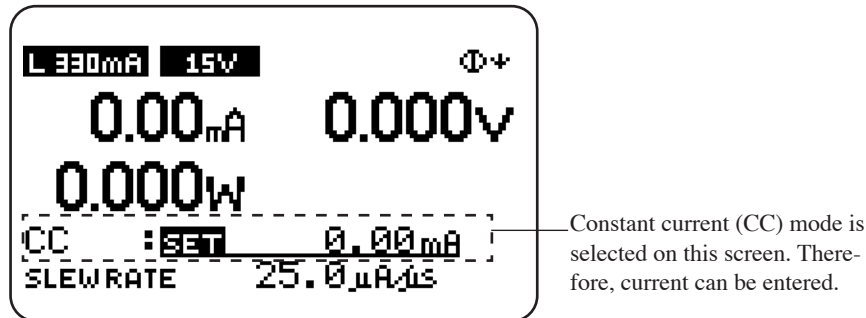

Fig. 2-5 Basic setting entry condition
5. Check whether the display appears as shown in Fig. 2-5.